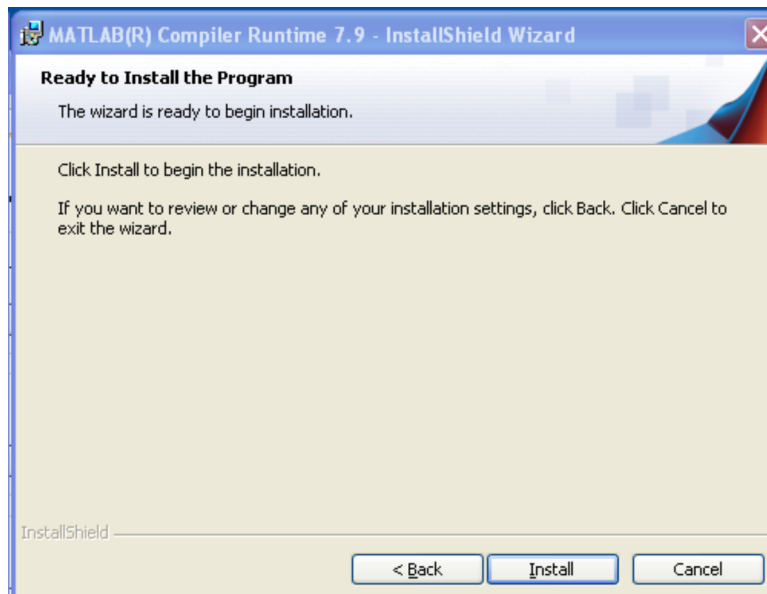

Figure 6. MCR GUI, Ready to Begin Installation
- Click *Install* or *Back* to change your installation settings, as shown in Figure 6.